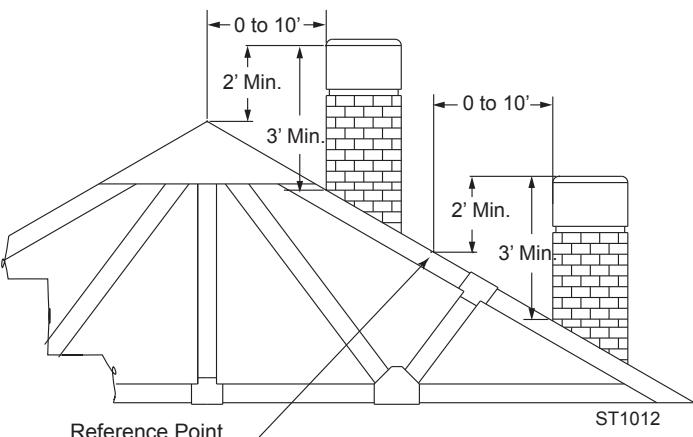

Figure 5 -
3. The chimney should extend at least 3' (914 mm) above the highest point where it passes through the roof, and at least 2' (610 mm) higher than any portion of a building within 10' (3 m). *Figure 5*